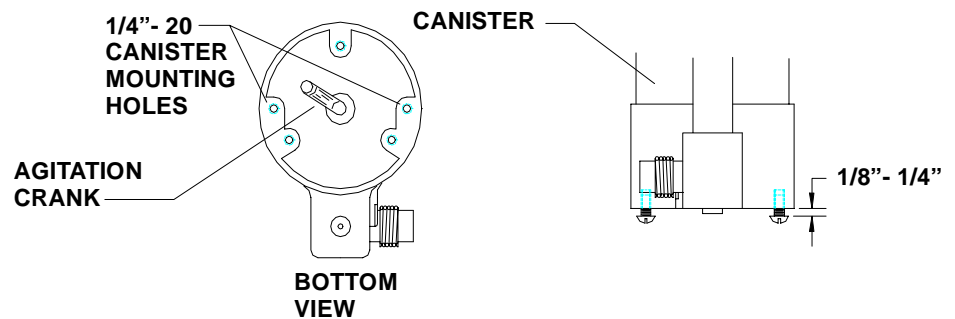

Figure 2 CANISTER
3. Insert two screws into the threaded holes on bottom of the canister. Allow about 1/8"-1/4" of thread (3-5 threads) to be exposed, as shown in Figure 2 on page 7.